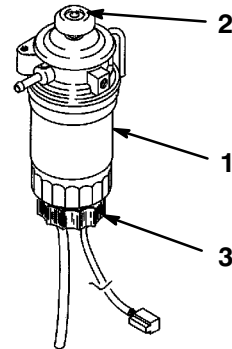

Figure 26
2. Press the primer button on top of the fuel filter until resistance is felt (Fig. 26).